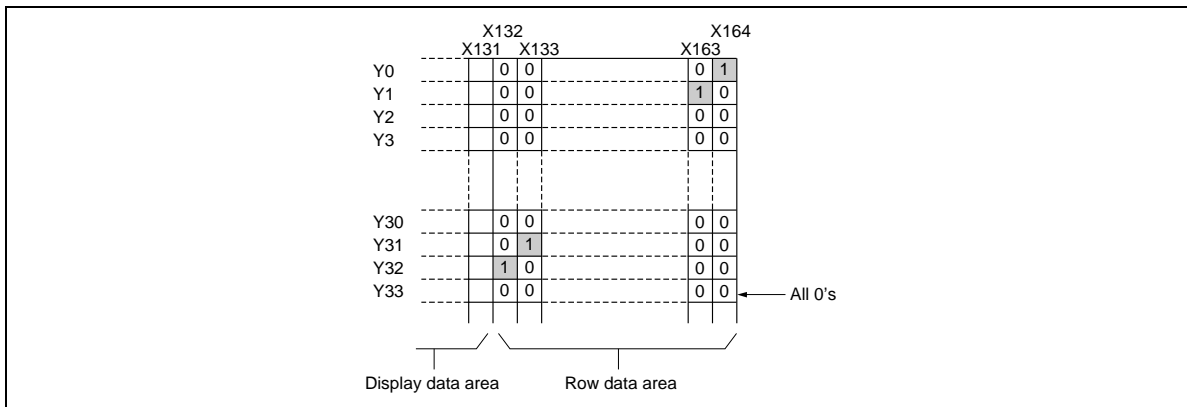

Figure 35 How to Set Row Data for 33-Row Output from the Right Side
- (1) After busy time is terminated, an X or Y address is not incremented until 0.5-clock time has passed. If an X or Y address is read during this time period, non-updated data will be read. (The addresses are incremented even in this case.) In addition, the address increment direction should not be changed during this time since it will cause malfunctions.
- (2) Although the maximum output rows is 33 when 33-row-output mode from the right side is specified, any multiplexing duty ratio can be specified. Therefore, row output data sufficient to fill the specified duty must be input in the Y direction. Figure 35 shows how to set row data in the case of 1/34 multiplexing duty ratio. In this case, 0s must be set in Y33 since data for the 34th row (Y33) are not output.
- (3) Do not set the C select register’s CLN bits to 0 for the M signal of C-type waveform.